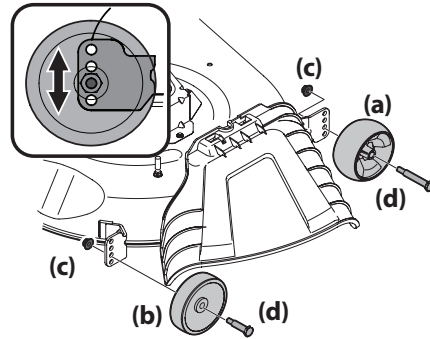

Figure 12
- b. Remove the front (a) and rear (b) deck wheels by removing the flange lock nuts (c) and shoulder bolts (d) that secure them to the deck. See Figure 12.